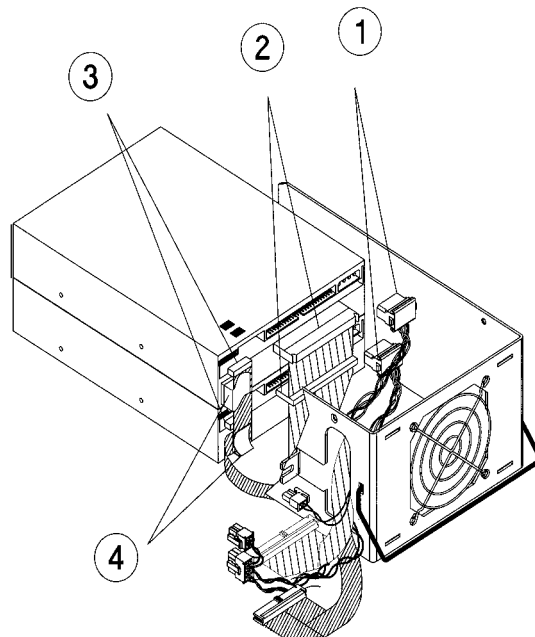

Figure 52: Removing Cables From a Drive
6. Remove the drive cables from the rear of the failed drive (see Figure 52.
10. Connect the drive power cable, SCSI cable, and drive interface cable to the rear of the drive (see Figure 52).